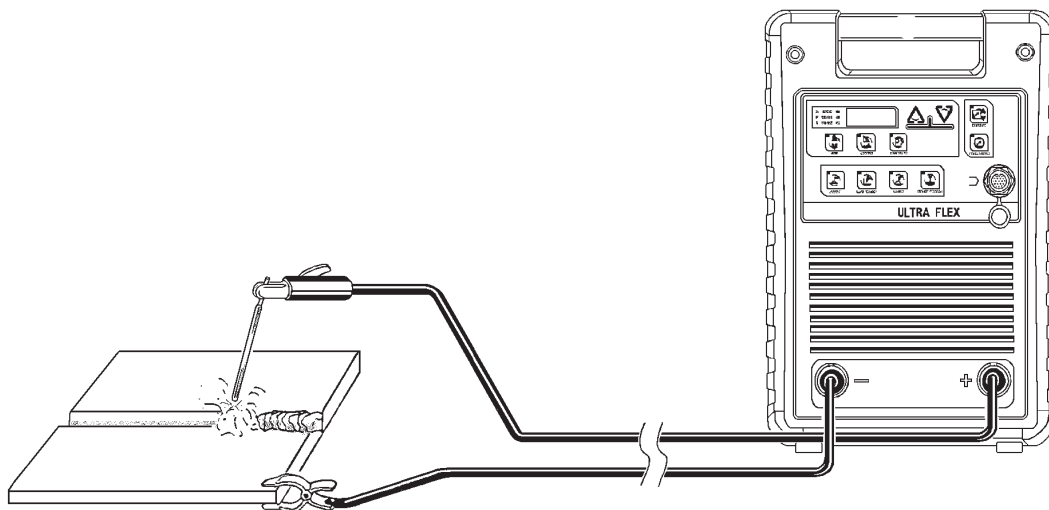

Figure 5-1
(See Figure 5-1)
1. Connect the welding leads to the power source with the correct polarity. Figure 5-1 shows typical connections for DCEP welding. Make sure connections are properly tightened and that ground clamp is securely attached to the workpiece.